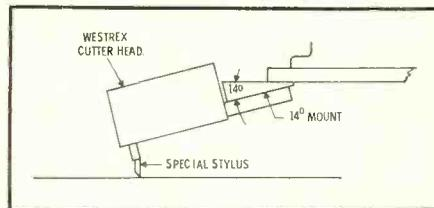
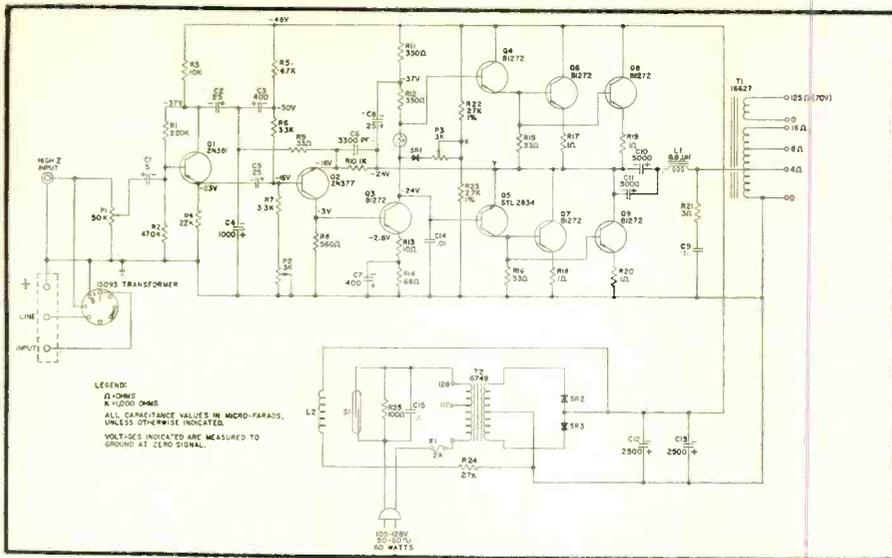

Fig. 4. Modifications of the Westrex cutter for producing a 15-deg. modulation angle.
Fig. 2. Schematic of the Model 351A.
Fig. 2. (A) Square wave applied to the cutter amplifier. (B) Motion of recording stylus. (C) Sarcophagus pattern produced by slanted cut. (D) Rhombus pattern with 0-deg. modulation slant.
vertical modes. This record became the CBS Laboratories Stereophonic Test Record STR-110. The STR-110 indeed represents the type of modulation obtained with the standard Westrex cutter system. Upon replay of the vertical square wave, it was noticed on the oscilloscope that the lengths of the two halves of the reproduced wave were slightly unequal. Fortunately, we did not yield to the temptation of overlooking this phenomenon, but instead proceeded to examine the groove with a microscope. Now, as shown in Fig. 2, a square wave (A) becomes a triangular wave (B) on a velocity basis, and when such a wave is recorded in the vertical mode with a cutter having a recording angle other than 0 deg., the peaks of the wave are shifted along the recording line from  $a$  to  $b$ , so that the recorded groove presents a sarcophagus pattern (C). Of course, when such modulation is played with a pickup having an appropriate vertical tracking angle, symmetry is restored and a perfect square wave is reproduced. However, microscopic examinations of the modulation of the STR-110 revealed not a sarcophagus pattern but a rhombus pattern (D) which implied that the 23-deg. recording angle produced near-0-deg. slant modulation!
in Fig. 2. Initially the lacquer is in an unstressed condition. As the disc advances to the left so that successive horizontal intervals pass by the cutter, the tip of the stylus moves along the slant lines, and cuts the shape  $a-b-c$ . While the cutting action takes place, the shearing forces push the material forward, as shown by the slanted dash lines, the slant being proportional to the depth of cut, and greatest at  $b$ . As the cutter emerges at  $c$ , the stress again is diminished. After the cutter has passed by any point, the material springs back taking on the form shown in (B) of Fig. 3. It is seen that the triangle  $a'-b'-c'$  has an equivalent vertical modulation slant  $C$  which is smaller than the recording angle  $B$  by the amount of a springback angle  $S$ , which is commonly 20 deg. This explains why a Westrex cutter with a 23-deg. recording angle produces a modulation slant only one-tenth that amount. It has been determined experimentally that the cutter must be inclined by an additional 14 deg. to end up with a 15-deg. modulation angle. The adjustment of cutting angle is made conveniently by adding a 14-deg. wedge to the cutter mount, and using a special stylus with 14-deg. tip orientation, as shown diagrammatically in Fig. 4. A new test record, the STR-111, was recorded in this manner and demonstrated at the 1962 Fall National Convention of the Audio Engineering Society. The resulting modulation slant of the STR-111 is just about 15 deg. The square-wave modulation now has the desired sarcophagus shape shown by the
Fig. 2. Circuit of the tuner-oscillator and power supply. Oscillator stability is improved by the use of a premium-type 5751, by voltage regulation from the OA2, and by separation of the oscillator from the power-supply. This latter precaution minimizes temperature drift.
cies. Although the oscillator range is only 0.4 of a cycle, it is divided into 80 dial divisions, each of which can also be visually divided. In addition to stability the tuner-oscillator must have frequency-controlling components that can be calibrated accurately with available equipment. The circuit diagram shown in Fig. 2 meets these requirements; the only additional equipment required is a clock or watch having a second hand.